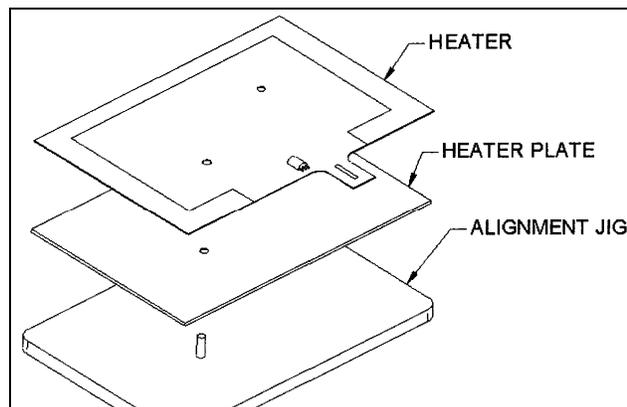

Figure 9-22 Attaching Heater Foil to Heater Plate
- 1 Attach adhesive backed heater foil (Part No. 24000740) to the heater plate (Part No. 22000910) using the alignment jig (IMFIX0001). The heater foil should be attached to the surface opposite the countersunk mounting holes as shown in Figure 9-22.